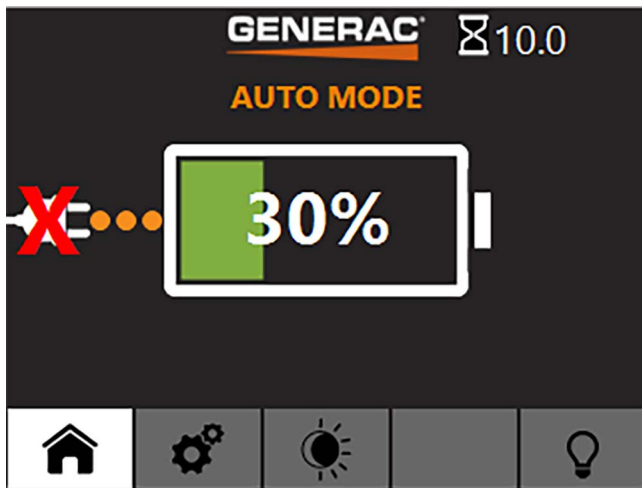

Figure 3-10. Battery Not Within Acceptable Charge Temperature Range Warning
- Do not charge battery below 41° F (5° C) or above 113° F (45° C). The battery management system monitors and prevents discharging outside the acceptable range. The controller will display the crossed out charge symbol shown in Figure 3-10, when battery internal temperature is outside the acceptable temperature range.